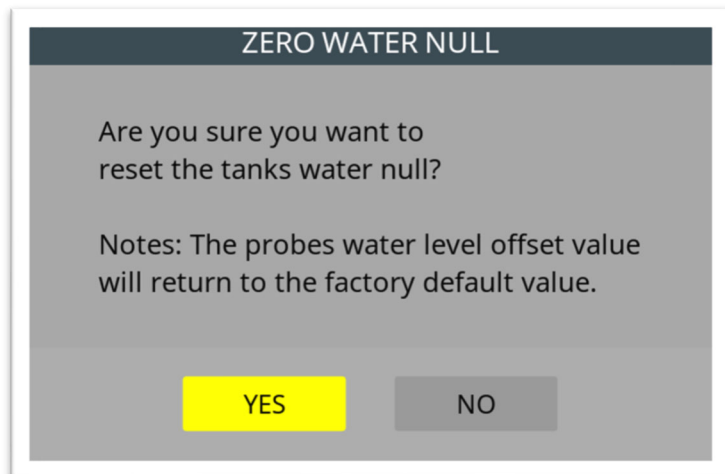

Figure 9.5
- g) **Zero Water Null:** Resets the water null to the factory-default value of 1.57. You are prompted to press YES or NO. (See Figure 9.5)